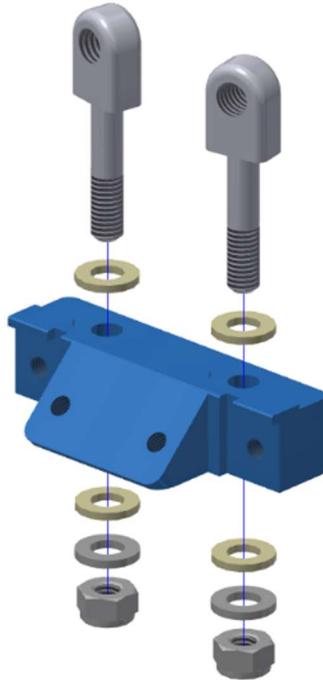

Figure 5-18. Remove the two Clavicle-Sternum Adaptor (474-3041) from the Adaptor, Rib 1 to Sternum (474-3040)
- 5.2.12 Remove the two Clavicle-Sternum Adaptor (474-3041-A) from the Adaptor, Rib 1 to Sternum (474-3040-A) by removing the M6 X 1 Hex Lock Nuts, M6 Flat Washers, and plastic M6 Flat Washers (Figure 5-18).